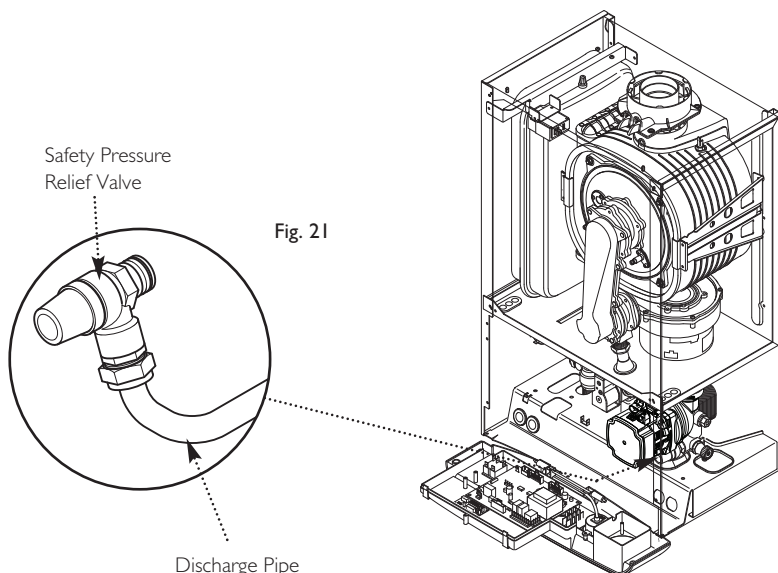

Fig. 21
9.4 Fitting the Safety Pressure Relief Discharge Pipe (Fig. 21)